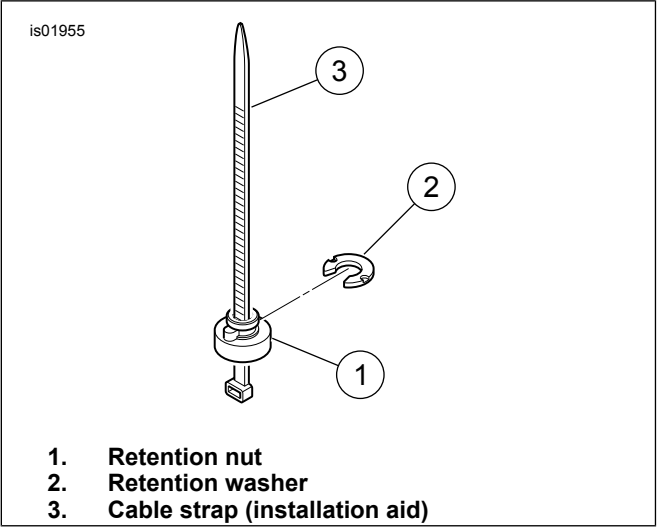

Figure 2. Retention Nut Installation
- c. See Figure 2. Place the retention nut over the cable strap so the wide end of the nut rests on the eye of the cable strap. Thread the cable strap up under the fender and through the center fender hole. Pull up on the cable strap to hold the nut snug against the underside of the fender.